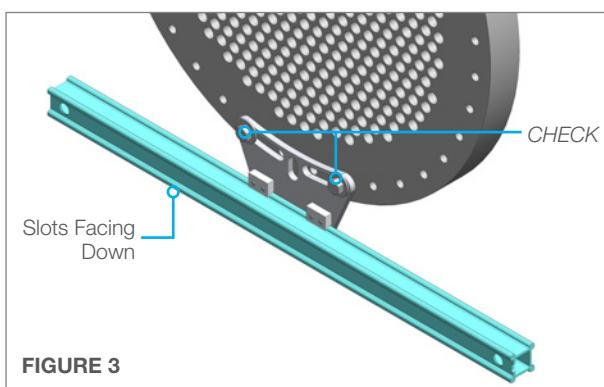

FIGURE 3
3. Loosen the **Rail Clamp Tensioner** on the bottom **Positioner Clamp** and insert the **Lower Rail** with the **slots facing down**, into the lower rail clamps. It is not critical that this rail is aligned as precisely as the top rail, but it should be close to parallel with the top rail for best performance. Tighten the **Rail Clamp Tensioner** securing the rail to the **Positioner Clamp**. Check Rail Clamp bolts to ensure they are secured to the tube bundle flange. (**Figure 3**)